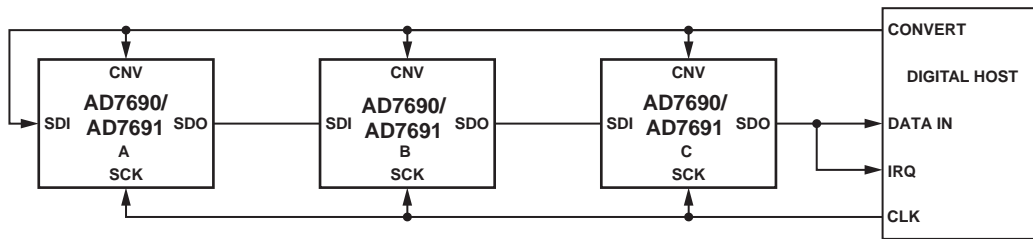
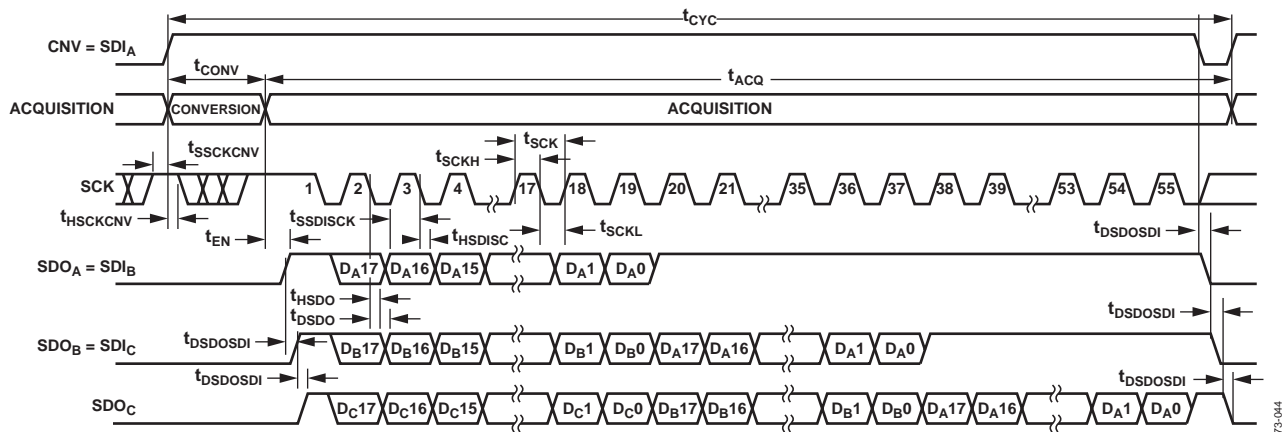

Figure 21. Chain Mode with BUSY Indicator Connection Diagram
Figure 22. Chain Mode with BUSY Indicator Serial Interface Timing
- In the chain mode, if SCK is high during the CNV rising edge (Figure 22).
A connection diagram example using three AD7690/AD7691s is shown in Figure 21 and the corresponding timing is given in Figure 22.
subsequent data readback. When all ADCs in the chain have completed their conversions, the nearend ADC (ADC C in Figure 21) SDO is driven high. This transition on SDO can be used as a BUSY indicator to trigger the data readback controlled by the digital host. The AD7690/AD7691 then enters the acquisition phase and powers down. The data bits stored in the internal shift register are then clocked out, MSB first, by subsequent SCK falling edges. For each ADC, SDI feeds the input of the internal shift register and is clocked by the SCK falling edge. Each ADC in the chain outputs its data MSB first, and $18 \times N + 1$ clocks are required to readback the N ADCs. Although the rising edge can be used to capture the data, a digital host using the SCK falling edge allows a faster reading rate and, consequently more AD7690/AD7691s in the chain, provided the digital host has an acceptable hold time.